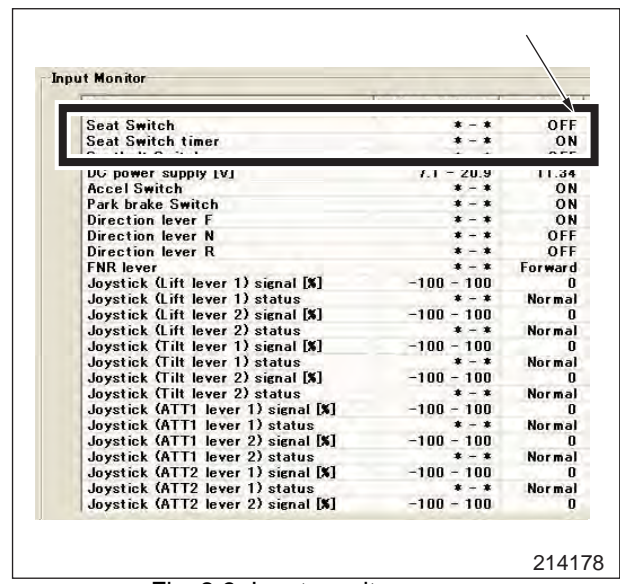
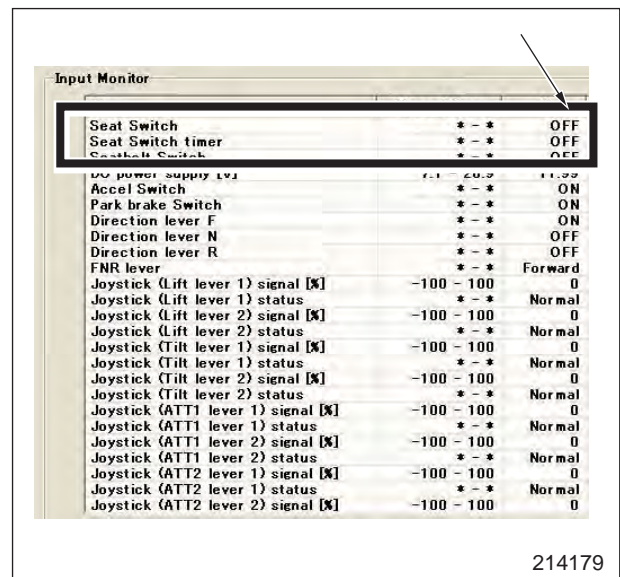

Fig. 2-3 Input monitor screen
Fig. 2-4 Input monitor screen
- (7) Leave the operator's seat. Make sure that seat switch is turned OFF. Then, by the function of the seat delay counter, Seating flag turns OFF in a few seconds after seat switch indicates OFF. (Fig. 2-3 and Fig 2-4)